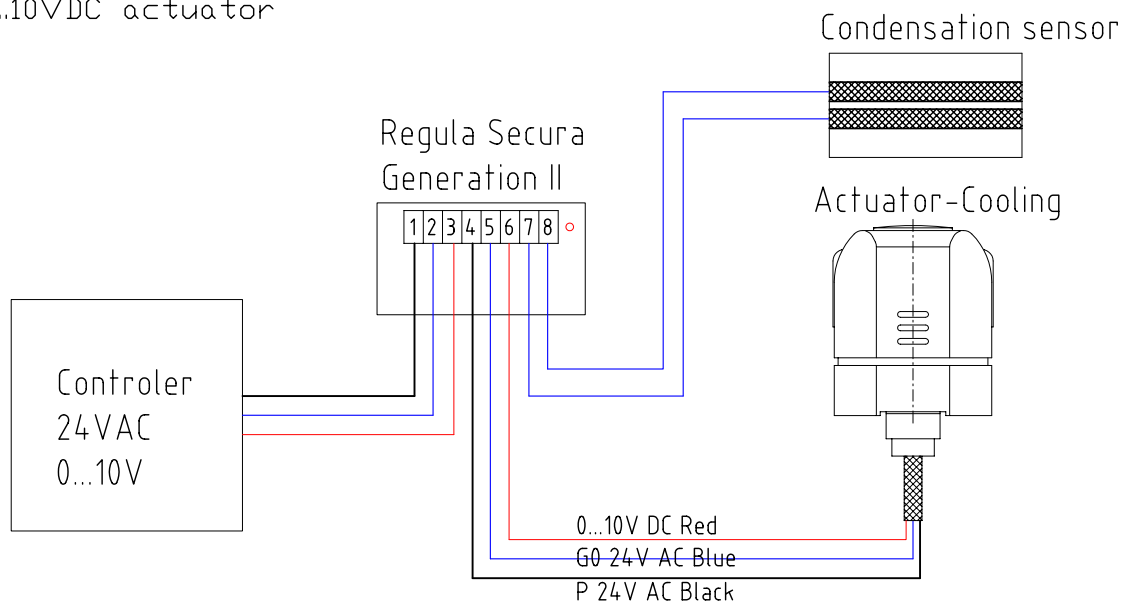

Figure 5. Connection schedule
- Connection is done according to connection schedule Figure 5.
1. Check that the mounting is correct done according to schedule Figure 5.